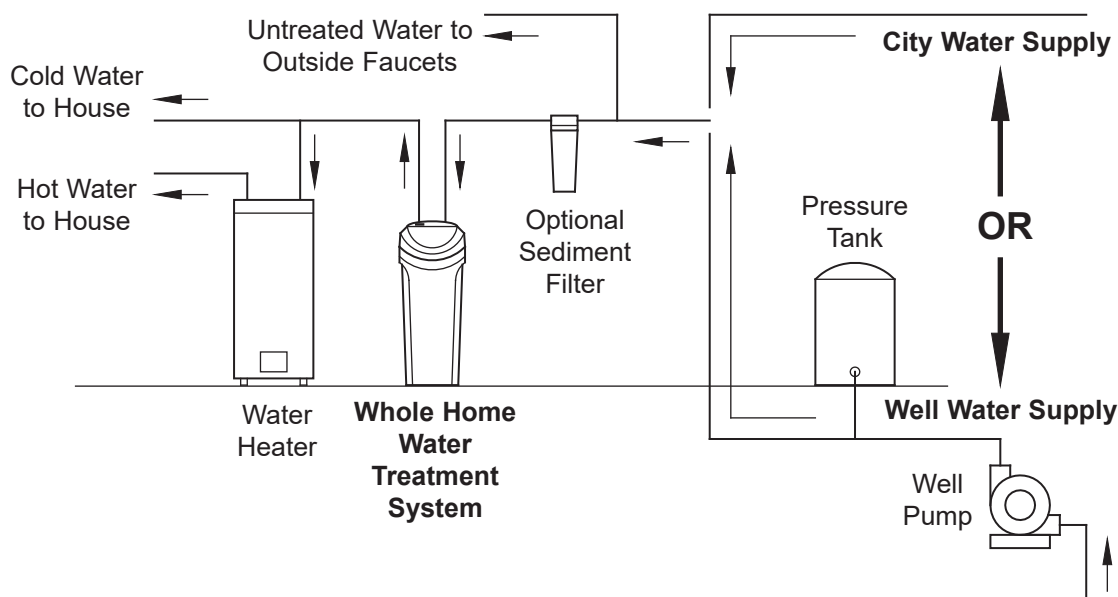

FIG. 4
- Always install the water treatment system between the water inlet and water heater. Any other installed water conditioning equipment should be installed between the water inlet and water treatment system (See Figure 4 below).